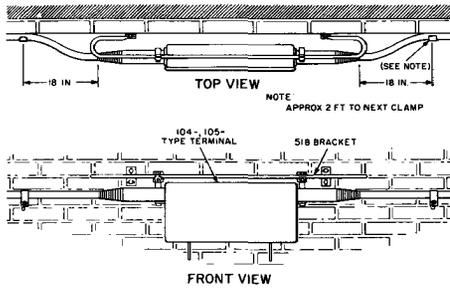

Fig. 8—Typical Bracket and 104- or 105-Type Terminal Mounting
4.06 Figure 8 illustrates a typical mounting of the 104- or 105-type terminal.